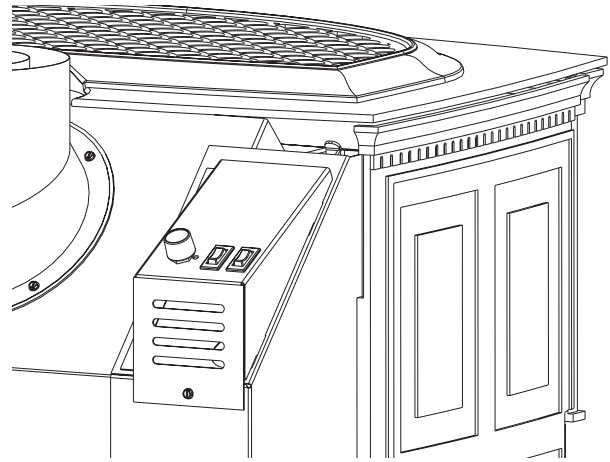

Figure 36. Burner Control Switch Location
1. Once the pilot is lit, burner operation is controlled by the rocker switch located at the left rear corner of the stove. See fig. 36. Use the T-STAT position for the optional thermostat or remote control functions.